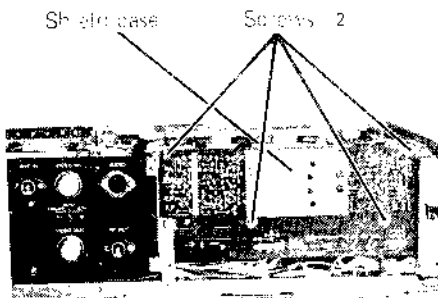

Fig. 4-9
1. Remove the four screws 2 on the printed circuit board as shown in Fig. 4-9.
3. Remove the shield case by using a soldering iron and separate the two wires located inside of the shield case as shown in Fig. 4-9.